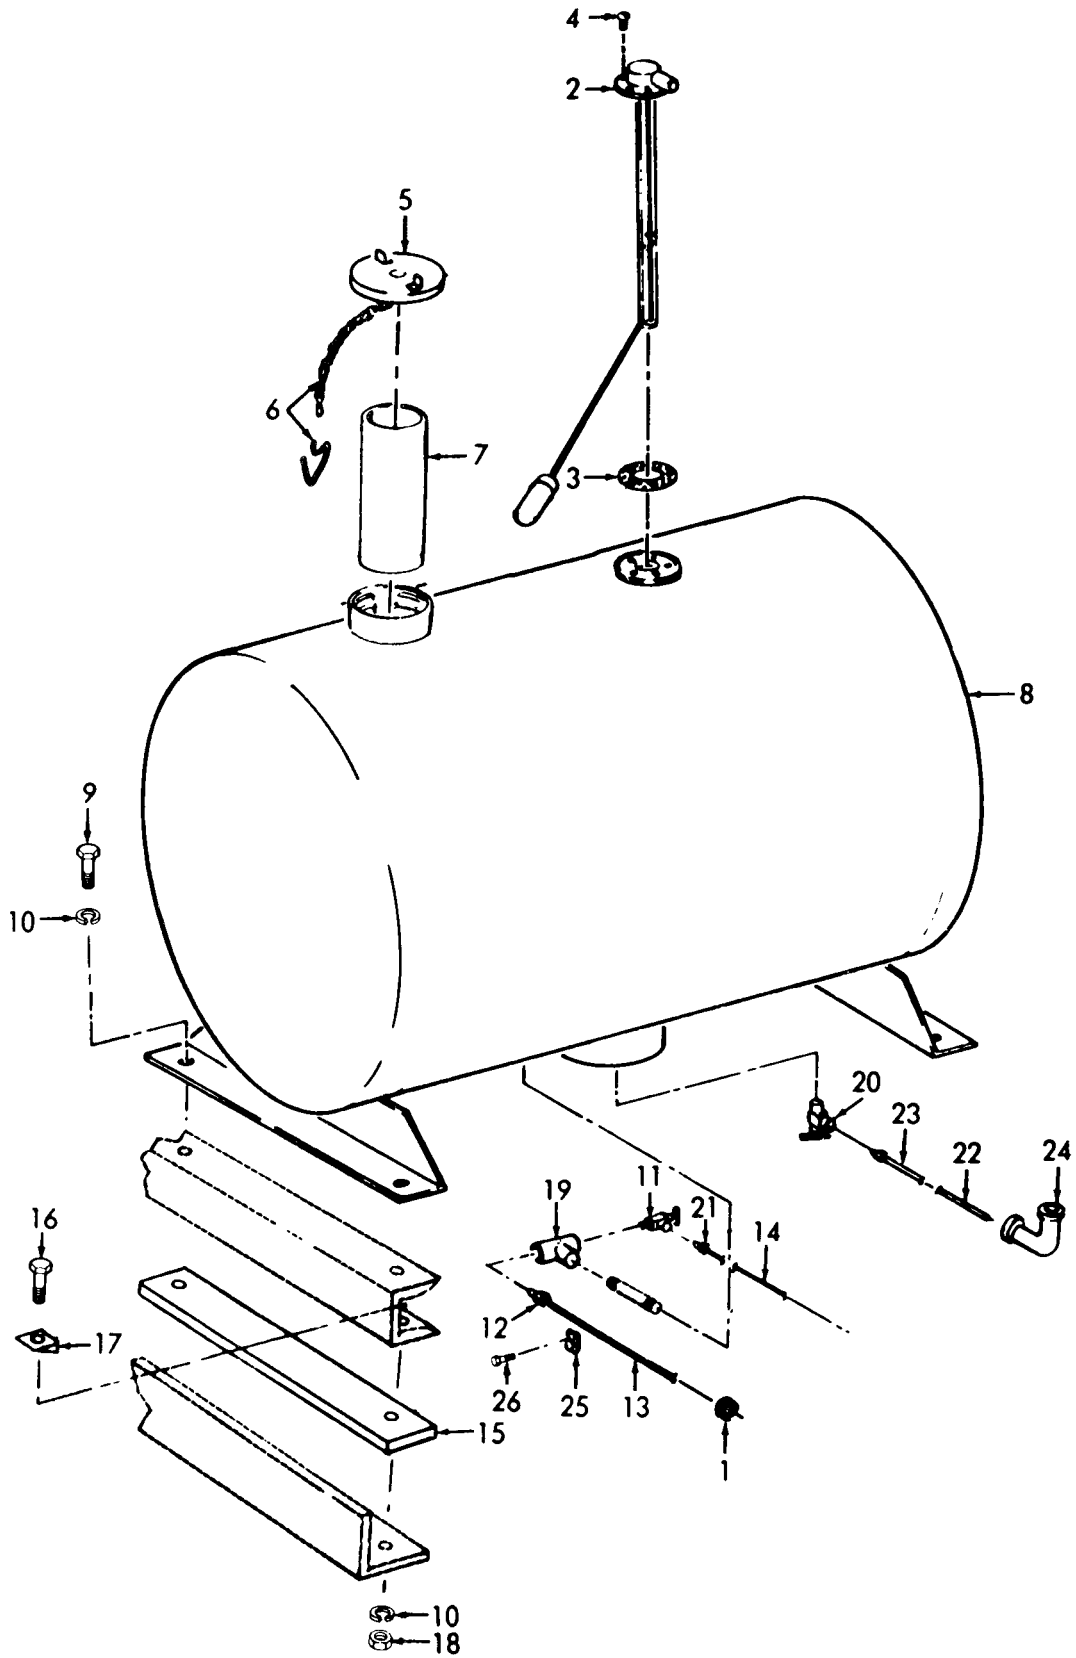

Figure 8-1. Fuel Tank, Lines, and Fittings, Removal and Installation.
a. Removal. Remove the fuel tank, lines, and fittings as illustrated in figure 8-1 only after draining the fuel tank.
(1) Clean the fuel tank with cleaning solvent and blow out excess solvent with compressed air.
(2) Inspect all gaskets for wear, tears, and deterioration.
(3) Clean all hardware in solvent and inspect for stripped threads.
(4) Inspect fuel tank for leaks, cracks, holes, defective welds, and other damage.
(5) Replace all defective or missing parts.
c. Installation. Install the fuel tank, lines, and fittings as shown by figure 8-1.
## LEGEND FOR FIGURE 8-1: